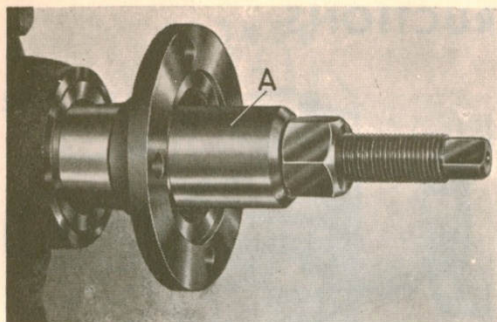

Fig. 3-15. Fitting coupling
4. Press on the coupling with tool SVO 2304, Fig. 3-15. Fit the other parts.